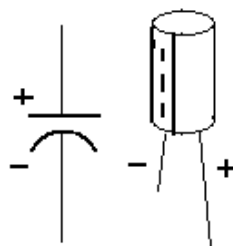

Figure 5.5
- Make sure to connect the capacitor with the proper polarity. See figure 5.5